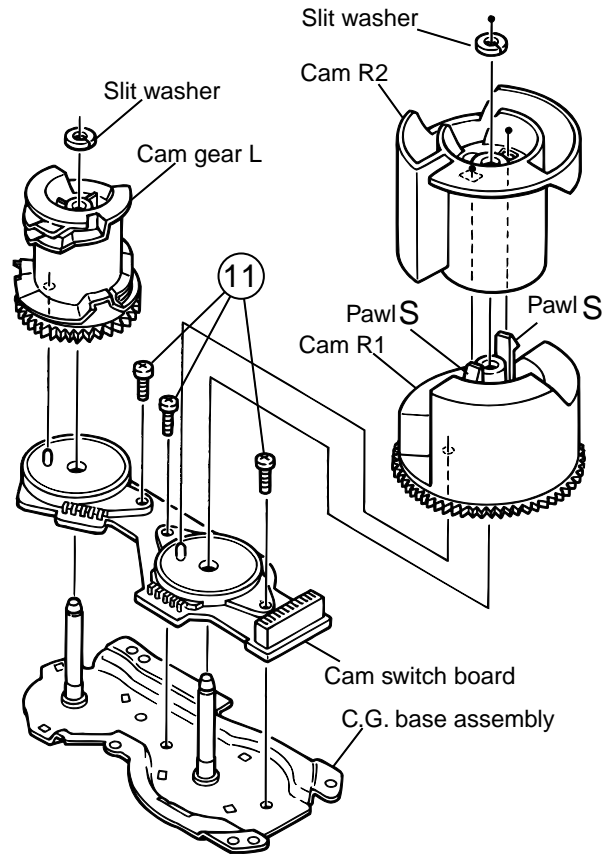

Fig.23
■ Removing the cams R1/R2 assembly and cam gear L (See Fig.23)
■ Removing the C.G. base assembly (See Fig.23, 24)